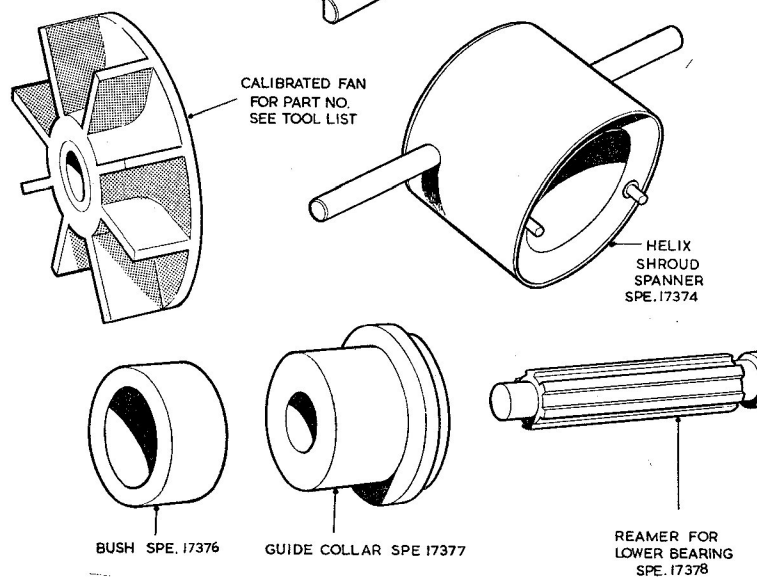

Fig. 9. General tools
sembly (74) from the pump spindle using the extractor tool SPE.17373 (fig. 9), together with any shims fitted. Do not attempt to remove the carbon seal ring.
(1) Holding the gear with special key SPE.17371 (fig. 9), unscrew and remove the self-locking nut and washer securing the bevel gear (108) to the shaft. Using the extractor tool SPE.17370 (fig. 9) withdraw the gear. Remove any shims (81) fitted and retain the drive key (82).